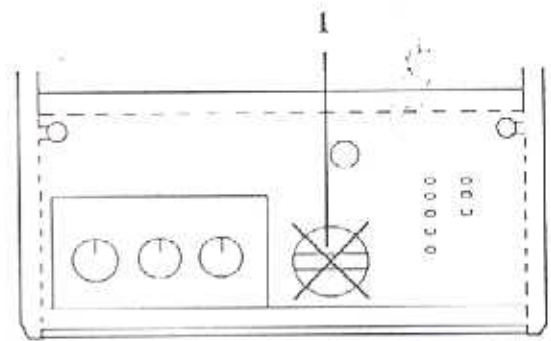

Fig. 1
Remove the clock aperture blanking plate (1) fig. 1 by squeezing the two lugs on the rear of the plate together and push the plate out.